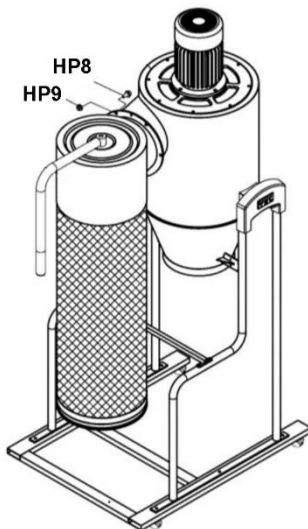

Figure 9
10. Place gasket (X) between canister filter and main housing. Install canister filter onto main housing, and tighten with flange head screws (HP8) and nuts (HP9). See Figure 9.